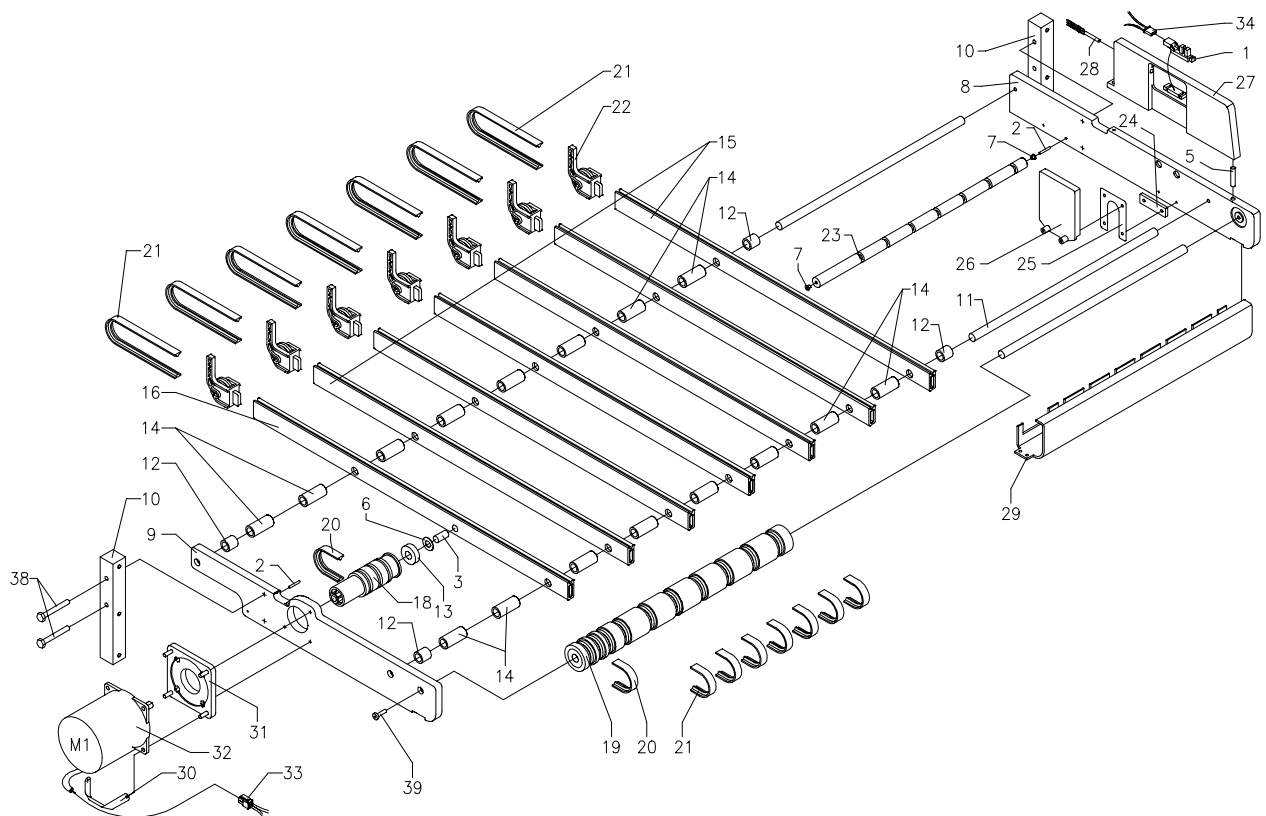

Figure 7-2 Infeed Conveyor Assembly
1. Refer to Figure 7-2 for parts locations.
To replace the infeed drive belts, refer to Figure 7-2 for parts locations and proceed as follows:
When replacing the motor or pulley, it is very important to follow this procedure to prevent pre-loading the motor bearings which will result in premature motor failure and noisy operation. (Refer to Figure 7-2).
If either of the measurements are not within tolerance, loosen the four mounting screws (Item 38 in Figure 7-2). Remove one screw at a time, apply blue Loctite and re-install. Align the infeed conveyor assembly. Once the infeed has been properly positioned, torque the mounting screws to 175 inch pounds.